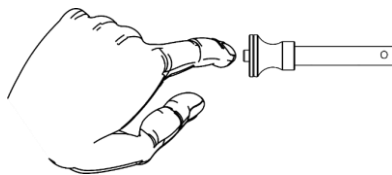

Fig. 11
- 01) Push and hold down the button of the **spring-loaded pin (18)** (Fig. 11).